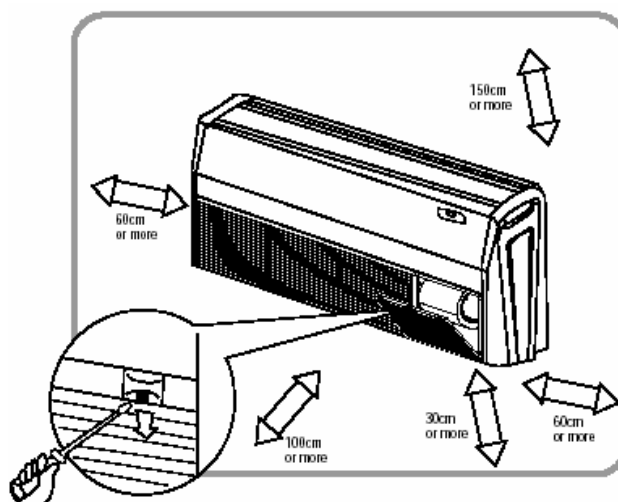

Fig.1
- 4) The diameter showed on the fig.1 is 65mm.
The space around the unit is adequate for ventilation (Refer to Fig.1)